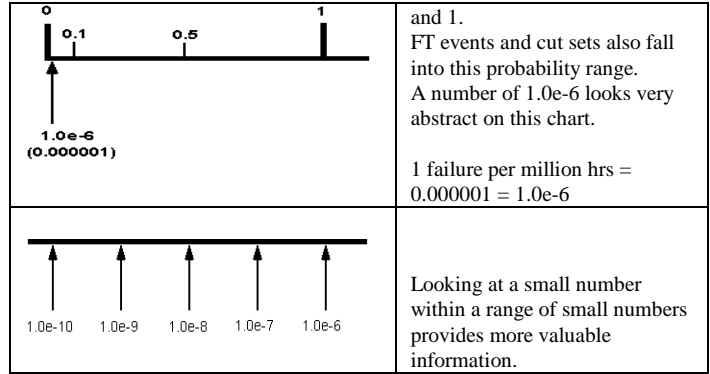

Figure 1 -- What Are Small Numbers ?
Knowing how to work with small numbers is crucial to FT construction and analysis. Figure 1 is an attempt to place some perspective on small numbers. Probabilities range between 0 and 1, and small numbers are very close to the 0 end of the range. It often makes more sense to compare the relative range of small numbers.
- small numbers are somewhat abstract (see Figure 1)